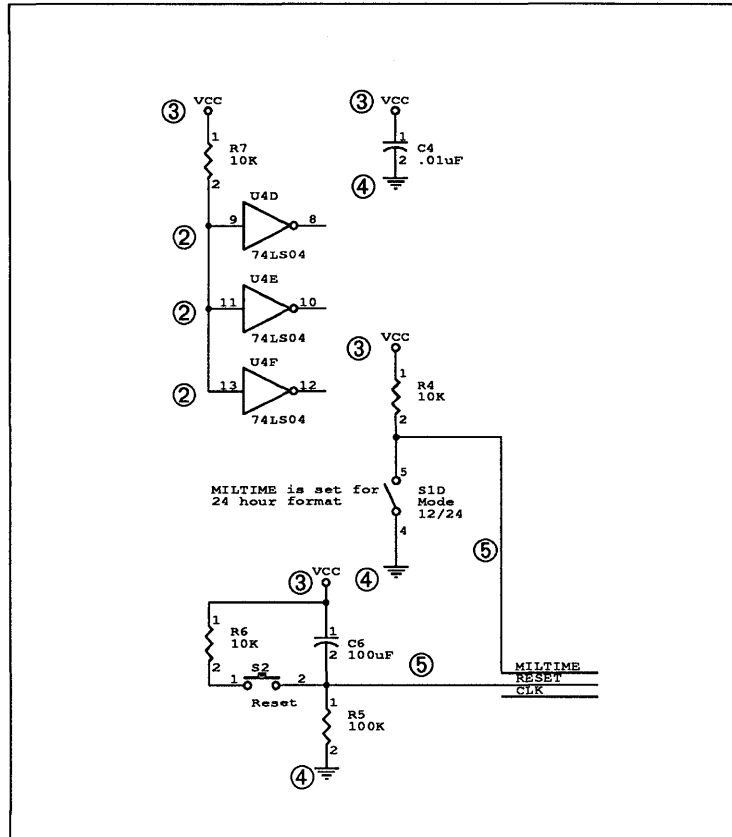

Figure 6-9. Inverters, power symbols, ground symbols, and wires to be placed. The callouts refer to the step numbers in this section.
There are also some leftover parts (from multi-part packages) to be placed on the schematic. Figure 6-9 shows the leftover parts for this design.
2. Get the 74LS04 inverter from .\DCLOCK.LIB and place three copies at locations (1.00, 3.20); (1.00, 3.90); and (1.00, 4.60), as shown in figure 6-9.
5. Place wires to connect the remaining components, as shown in figure 6-9. Be sure to connect the wires to the logic and display circuit at the two places shown in figure 6-9.